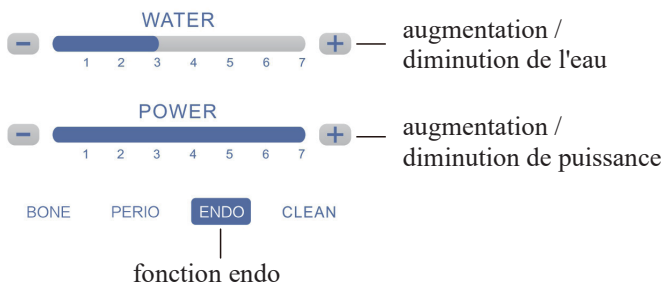

Figure 10
7.2.2 Fonction ENDO (figure 10)